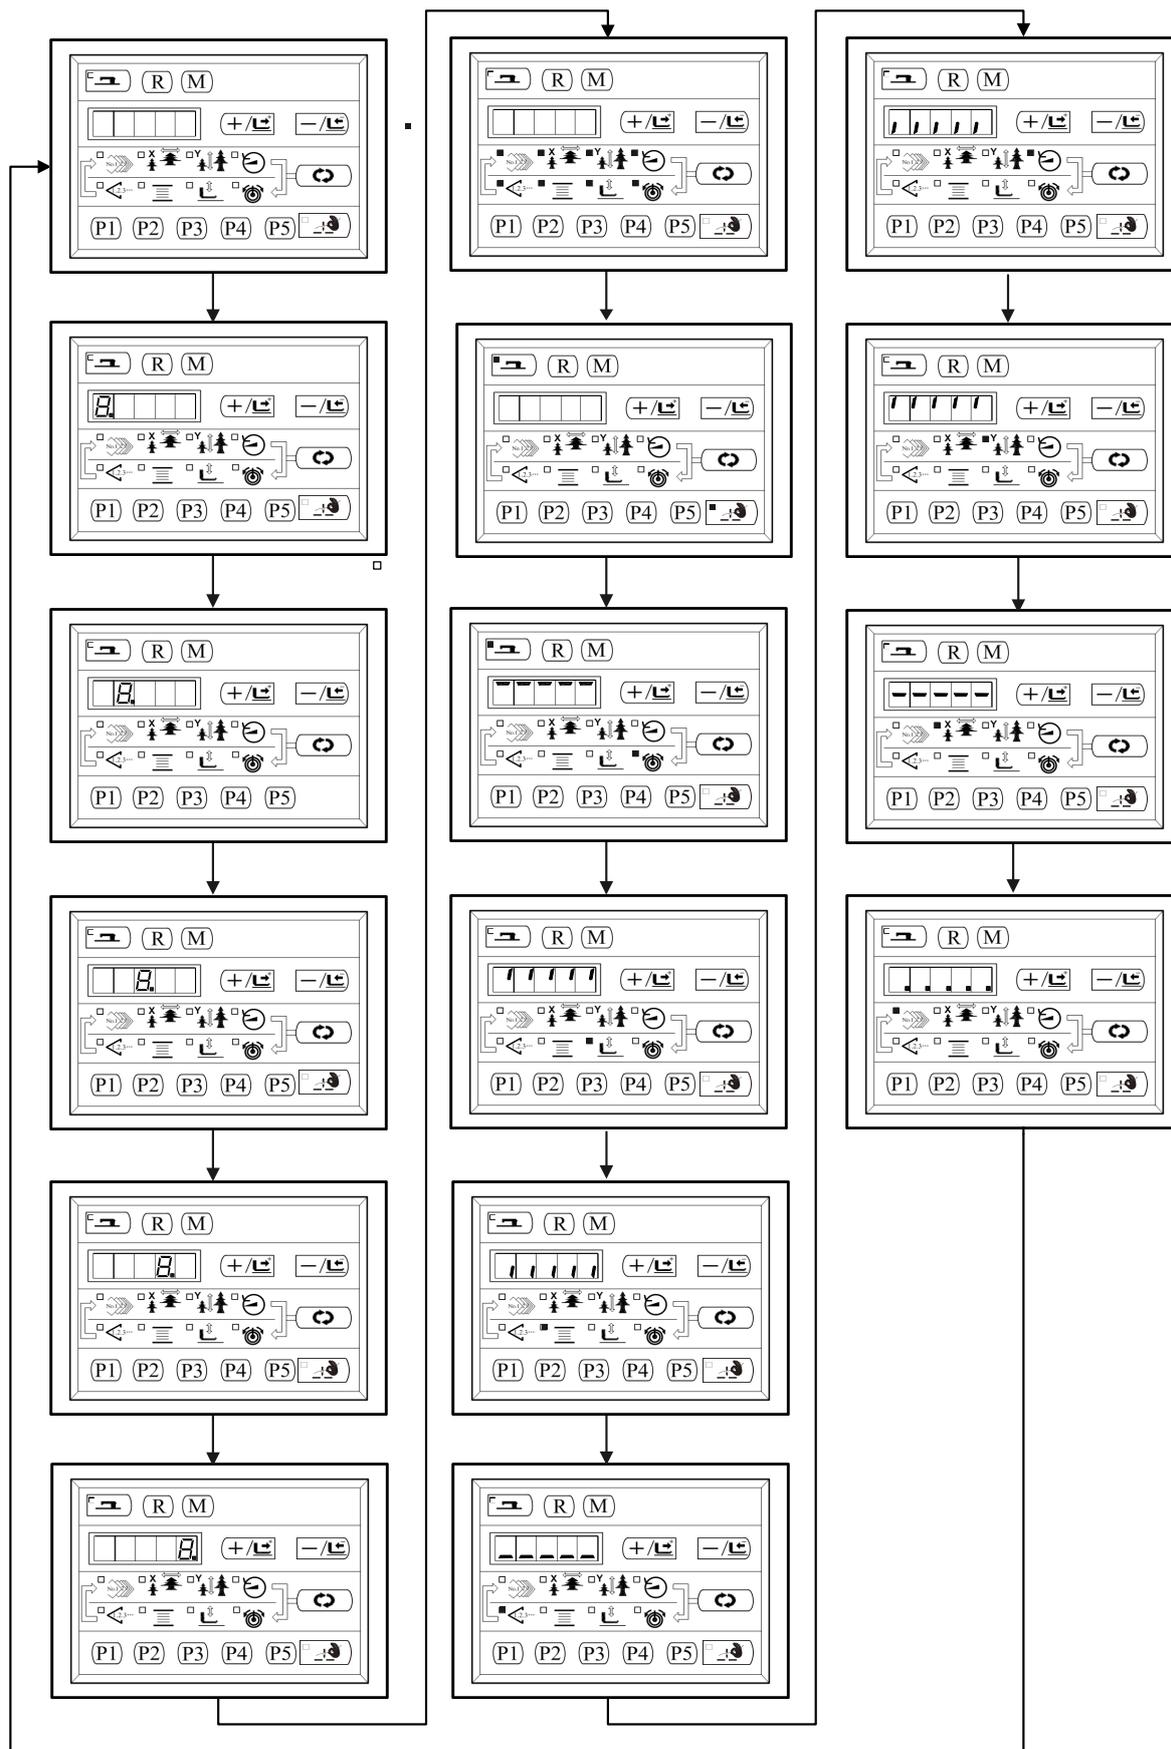

图1
(3). Press  to perform the display output test. This test will check the display module and indicator of each LED in cycle; the specific procedure is show in Figure 1.